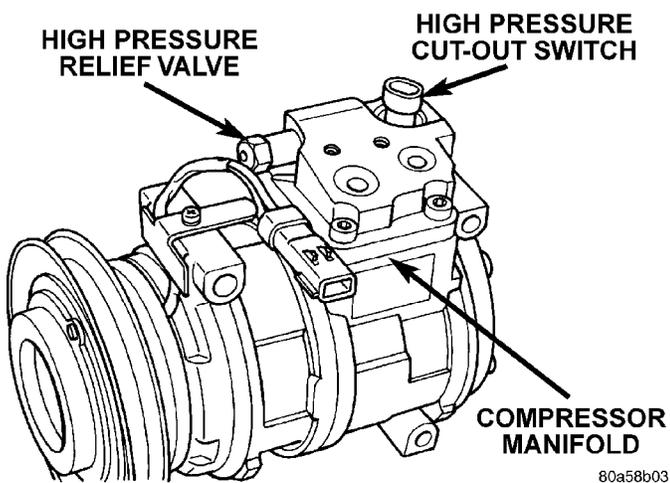

Fig. 35 High Pressure Relief Valve Location
- (1) Disconnect wiring connector at the switch (Fig. 35).
- (2) Remove internal snap ring.
- (3) Pull switch out of manifold.
- (1) Using a R-134a refrigerant recovery machine, remove the refrigerant from A/C system.
- (2) Rotate the high pressure relief valve counterclockwise and separate relief valve from the vehicle (Fig. 35).